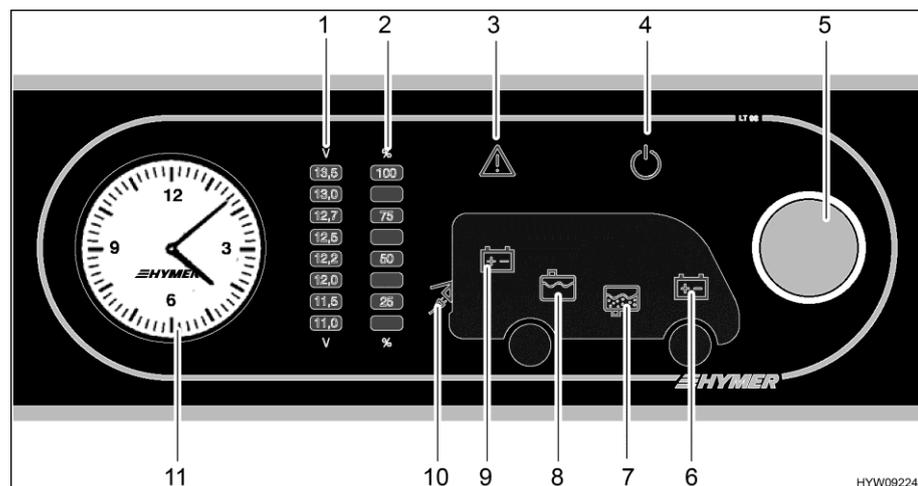

Fig. 131 Panel (LT 98)
The rotary knob (Fig. 131,5) switches the panel and the 12 V power supply to the living area on and off.
*Switching on:* ■ Press the rotary knob (Fig. 131,5): The 12 V living area power supply is switched on. The 12 V indicator lamp (Fig. 131,4) lights up.
*Switching off:* ■ Press the rotary knob (Fig. 131,5): The 12 V living area power supply is switched off. The 12 V indicator lamp (Fig. 131,4) goes - off.
Use the rotary knob (Fig. 131,5) for reading the voltage of the living area battery as well as that of the starter battery. The voltage is displayed on the indicator scale for battery voltage (Fig. 131,1).
*Displays:* ■ Turn the rotary knob (Fig. 131,5) until the symbol for the desired battery lights up.
Living area battery voltage is displayed (Fig. 131,9)
Starter battery voltage is displayed (Fig. 131,6)
- Read the voltage from the indicator scale for battery voltage (Fig. 131,1).
Use the rotary knob (Fig. 131,5) for checking the fill level of the water tank or the waste water tank. The fill level is displayed on the indicator scale for the tank fill level (Fig. 131,2).
- Turn the rotary knob (Fig. 131,5) until the symbol for the desired tank lights up.
The level of the water tank is displayed (Fig. 131,8)
The level of the waste water tank is displayed (Fig. 131,7)
- Read the level from the indicator scale for the tank fill level (Fig. 131,2).
The Alarm warning light (Fig. 131,3) flashes if set limit values are exceeded or fallen below.
The Alarm warning light (Fig. 131,3) flashes if the battery voltage falls below 11 V. If the 12 V power supply is switched on, the relevant battery symbol (Fig. 131,6 or 9) also lights up and "11.0" starts flashing on the indicator scale for battery voltage (Fig. 131,1). Danger of total discharge.
The Alarm warning light (Fig. 131,3) starts to flash and the corresponding tank symbol (Fig. 131,7 or 8) lights up as soon as the water tank is empty or the waste water tank is full.
The 230 V indicator lamp (Fig. 131,10) illuminates whenever line voltage is available at the transformer/rectifier input.